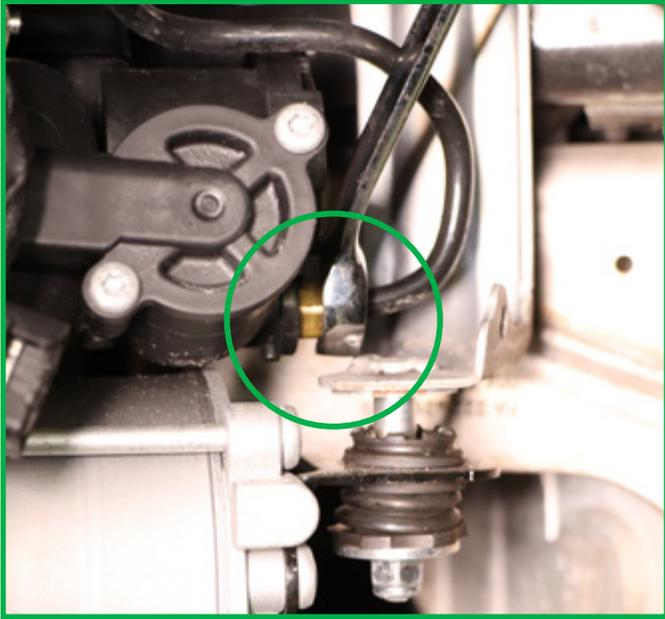

FIGURE 5
6. Disconnect the air line fitting on the compressor. (Figures 5, 6)